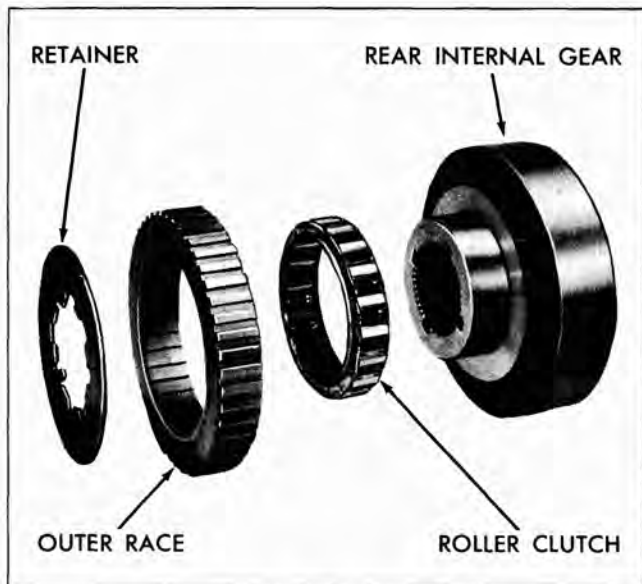

Fig. 92 Roller Clutch—Exploded
1. Remove the roller clutch and outer race from the rear internal gear. (Fig. 92).